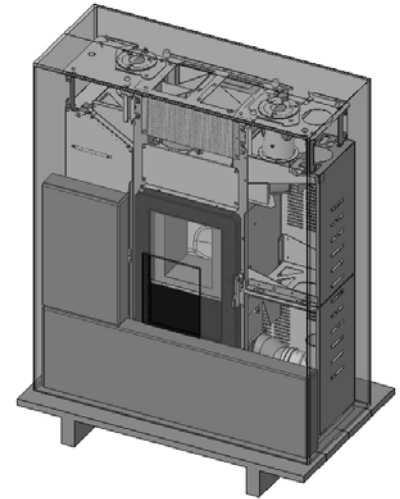
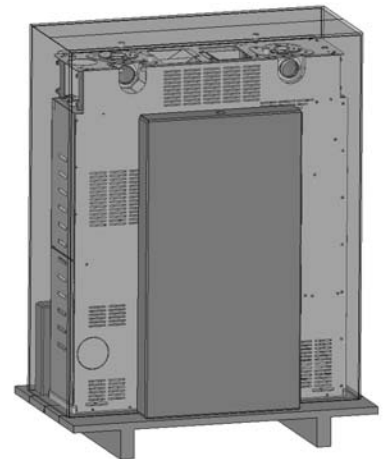

Figure 1- Stove packaging (front view)
Figure 2- Stove package (rear view)
- ✓ The first package contains the stove (fig. 1)
- ✓ The second contains the painted steel front panel in 2 pieces (fig. 2)
The packages containing the grille and the top are placed together with the stove in the same box (fig. 1). The package containing the front panels is placed alongside the stove package (fig. 2).